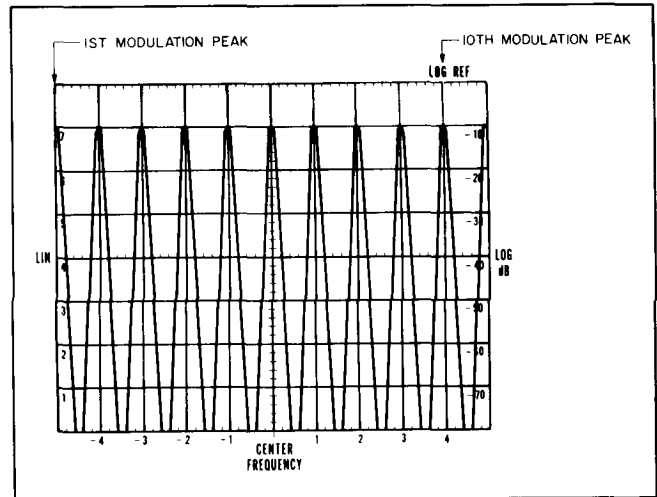

Figure 4-7. Scan Time Modulation Peaks
- Adjust the audio oscillator modulation frequency to align the tenth modulation peak with the +4 graticule line (see Figure 4-7). Total scan time is read on the HP 5245L and should be  $2.0 \pm 0.2$  ms.